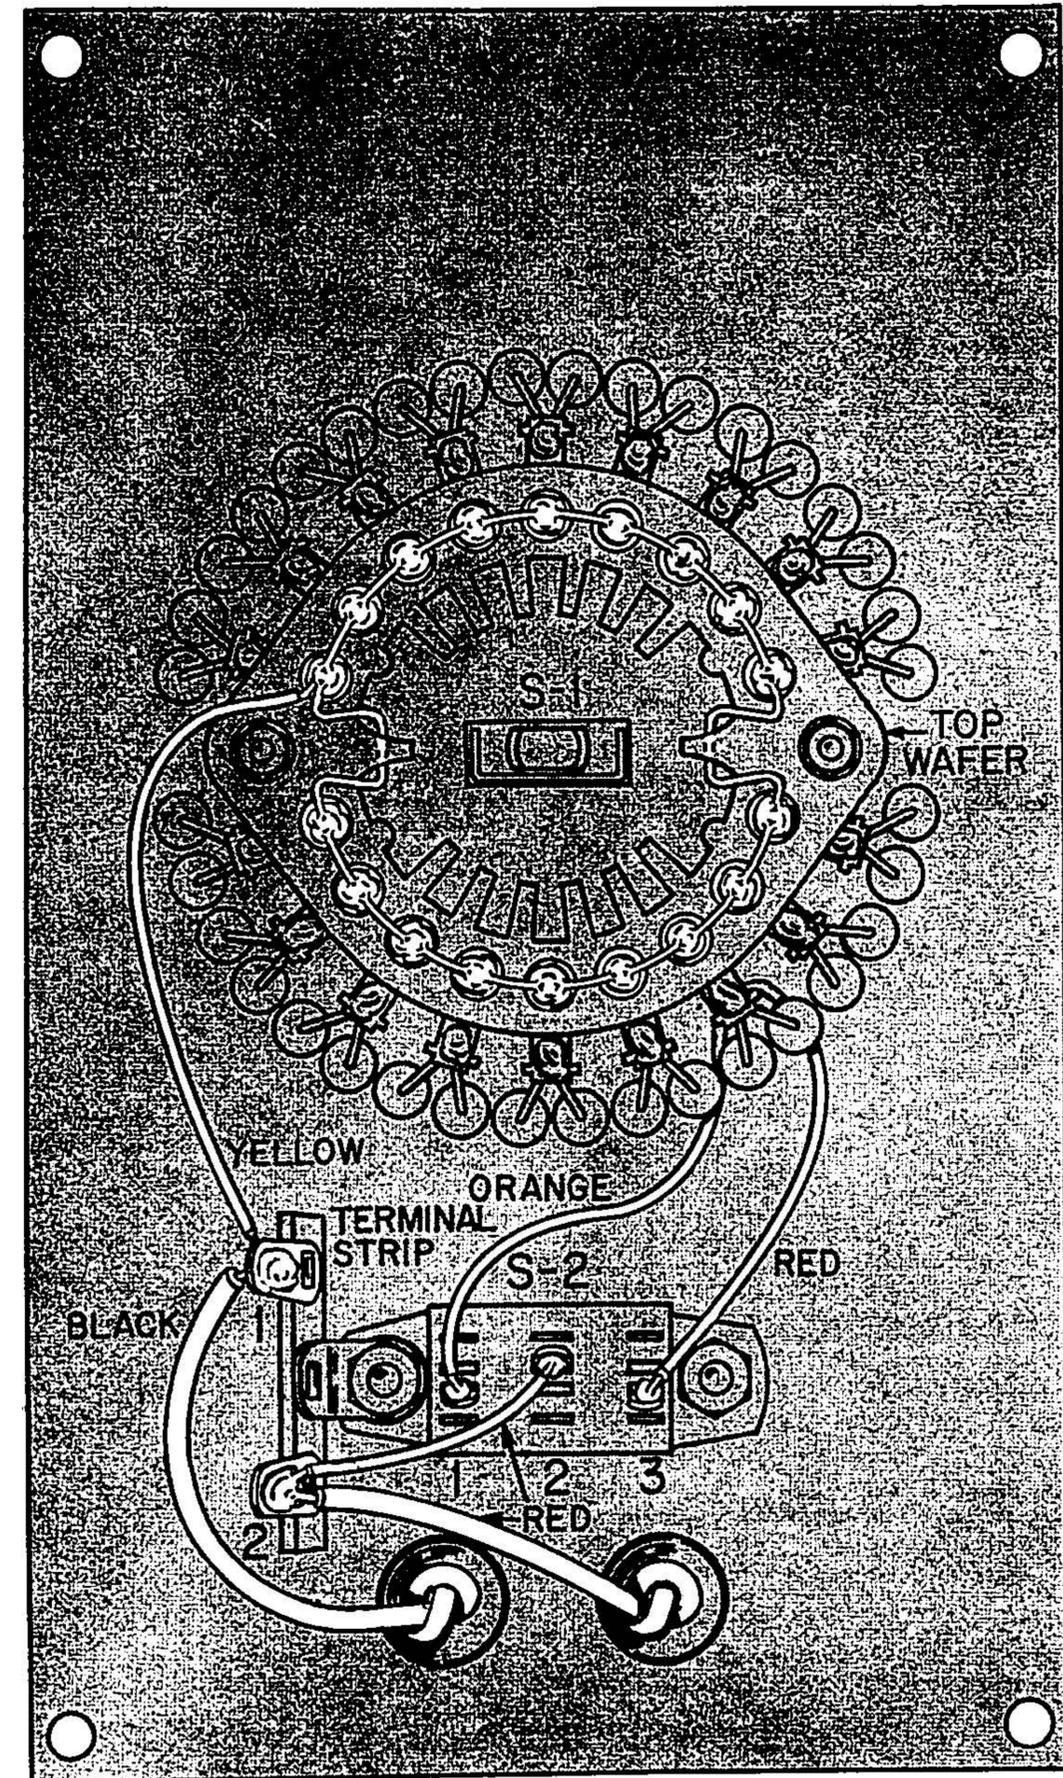

FIGURE 7. FINAL WIRING
SEE FIGURE 7.
- Solder one end of a yellow wire to the rivet on S-1 as shown in Figure 7. Connect, but do not solder, the other end to terminal 1 on the terminal strip.